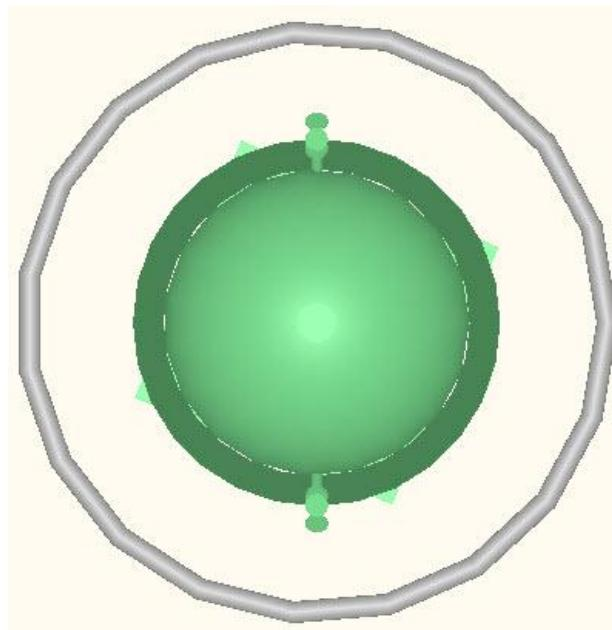

Figure 11.9: Plan View of Tank-01
13. Change the Angle to 360 deg then Finish. The piping should look like Figure 11.9.